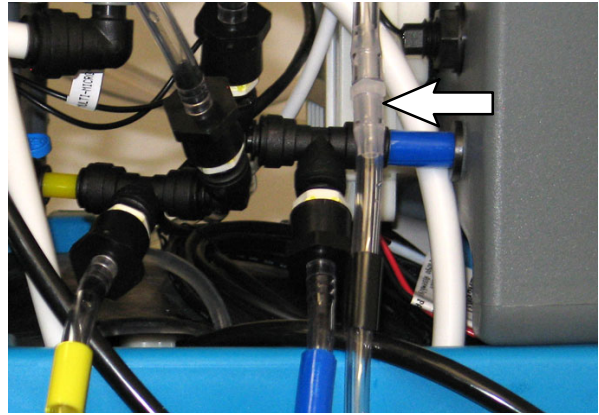

FIG. 34
33. Connect the blue hose assembly vent hose (black marking) to the os3 blue vent hose. (Fig. 34)